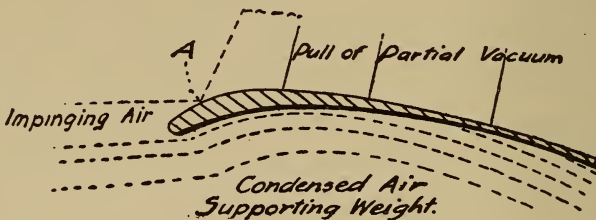
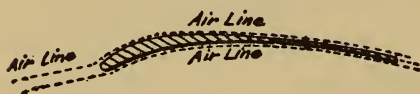

Fig. 44. Aero-curves
Fig. 44a. Maxim's aero-curve
aeroplane, that the so-called plane is a real plane; it is not. The front edge of an airship plane must always be curved, as shown in Fig. 44, so that the air strikes the under surface and is forced under the plane, to buoy up the machine as it moves forward; or, to put it another way, there must be a current of air either natural or artificial on which the machine must float, or it will be drawn by gravitation to the earth. While we cannot see air or wind, we know from experience that it has great power, and for thousands of years ships have been propelled across the seas by this force, acting on sails of some kind. We know how difficult it is to travel against a high wind, and it is this quality in the air that makes it possible to travel through it. The resistance of the atmosphere makes it
“If you examine the rough drawing I made for you on the blackboard (Fig. 44) you will notice that the upper or convex curve is different from the under or concave one, and it is upon this difference in curvatures that many of the flying qualities of the machine depend. This little section showing the different curves is the one used by many of the successful aviators, though some prefer the form invented by Sir Hiram Maxim, shown in Fig. 44a, which does not differ very materially from
though different authorities disagree as to why this shape of plane is best, all agree that it is so. Sir Hiram Maxim's theory is that the air follows both the upper and lower surfaces of the plane, as shown in Fig. 44*a*, while Phillips holds that the air follows the lower surface of the plane, and, striking the hump, shown at A, Fig. 44, is reflected off the upper surface of the plane, thus forming a partial vacuum on the upper surface, which gives an additional upward pull to the plane. There is, however, little doubt that most of the work is done by the force exerted on the lower surface of the plane.
“While the construction of the aeroplane is yet in an experimental stage, it is progressing quite rapidly, and though no definite rules covering the whole ground of construction and management can yet be laid down, the following points may be well considered before any steps are taken in making or using any make of aeroplane: (1) That it is useless to construct the planes of flat vertical section, as much lift is lost in doing so, and they are best constructed after the manner shown in Figs. 44 and 44a. (2) That the most practical aspect ratio is about 6 to 1. (3) That the angle